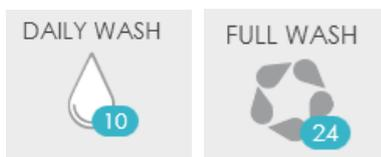

Figure 11) Daily Wash and Full Wash countdowns indicating when the washes must be performed
- Daily Wash and Full Wash countdowns inform the user when the respective washes must be performed (Figure 11).